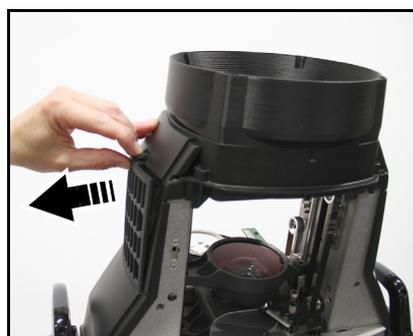

Figure 11: Releasing head air filter
3. See Figure 11. Unclip the air filter cover and lift it off the head.